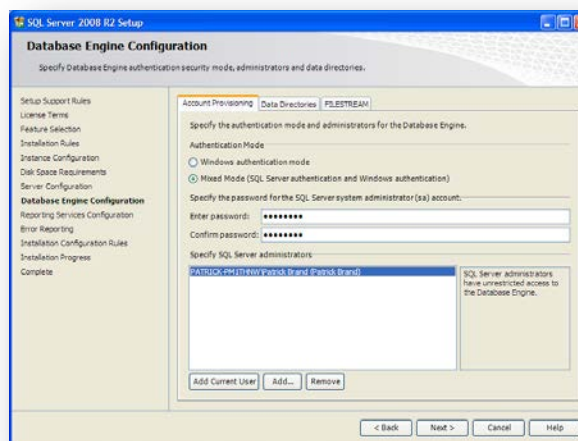

Figure 48 – Account Provisioning
14. When installation is complete, click “Close”. See Figure 48.